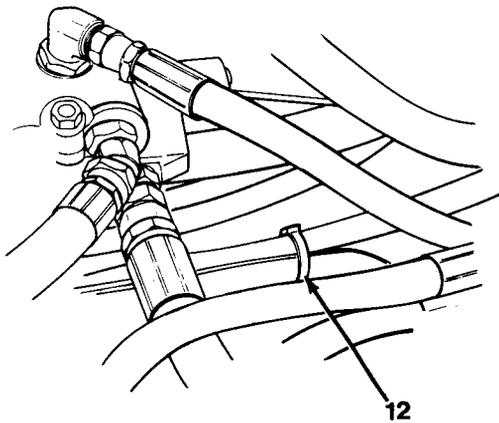

Figure 17-2
3. Remove two nuts (3), washers (4), capscrews (5), clamp (6) and shim (7).
4. Remove two nuts (8), lockwashers (9), capscrews (10) and bracket (11).
5. Cut and discard plastic ties (12, Figure 17-2).